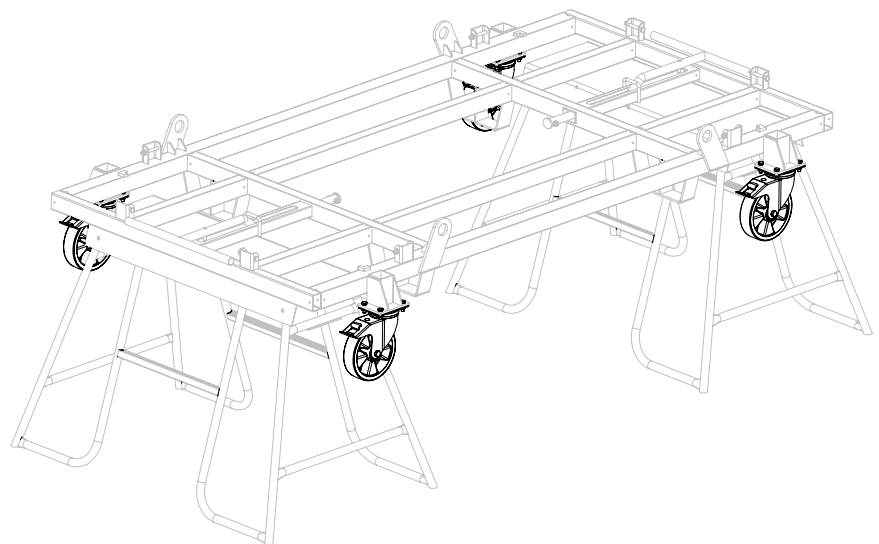

Fig. A1.03
4. Repeat the similar procedure at each location. (Fig. A1.03)